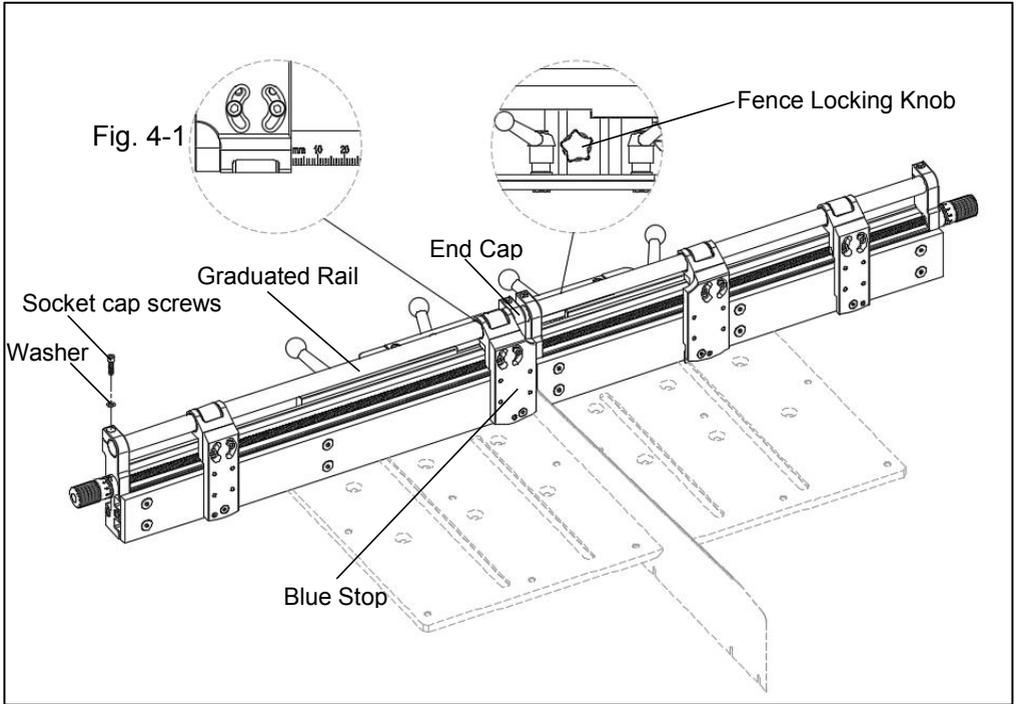

Fig. 4
- As shown in Fig. 4, with blade in the raised position, bring the Blue Stop over and rested against the blade. Make sure that the blue stop is engaged with the lead screw (refer to the section **2.1 Adjusting the Stops** for detailed operation).